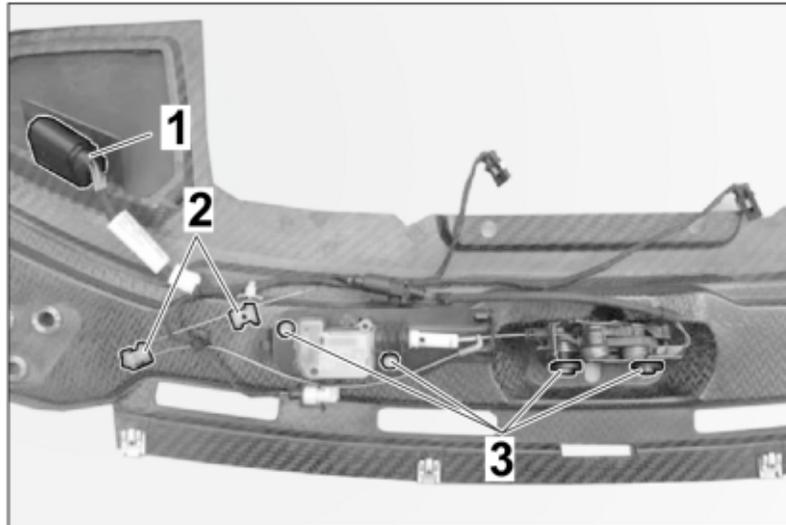

Figure 45
2. – Mount the lock unit and the cable harness on the new mounting bracket. Start by assembling the lock unit. Fasten it with the standard screws at the specified points ⇒ *Figure 45 -3-*. **Screw: Tightening torque 8 Nm (5.90 ft-lb)**. The two marked retaining clips for the wire cable of the emergency release ⇒ *Figure 45 -2-* cannot be used. If the retaining pin of these clips is pressed inwards, they can no longer be used.
3. – Next, attach the 12-pin central plug of the mounting bracket. Use the standard retaining clip for this ⇒ *Figure 45 -1-*. The other fastening points then come about automatically.